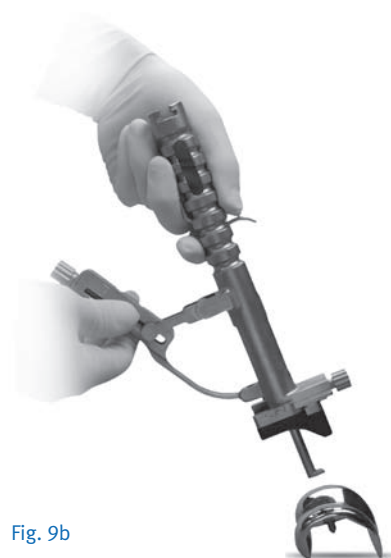

Fig. 9b
Open locking handle (G) to attach implant or provisional. Attach implant or provisional by positioning the instrument hook (Fig. 9b).